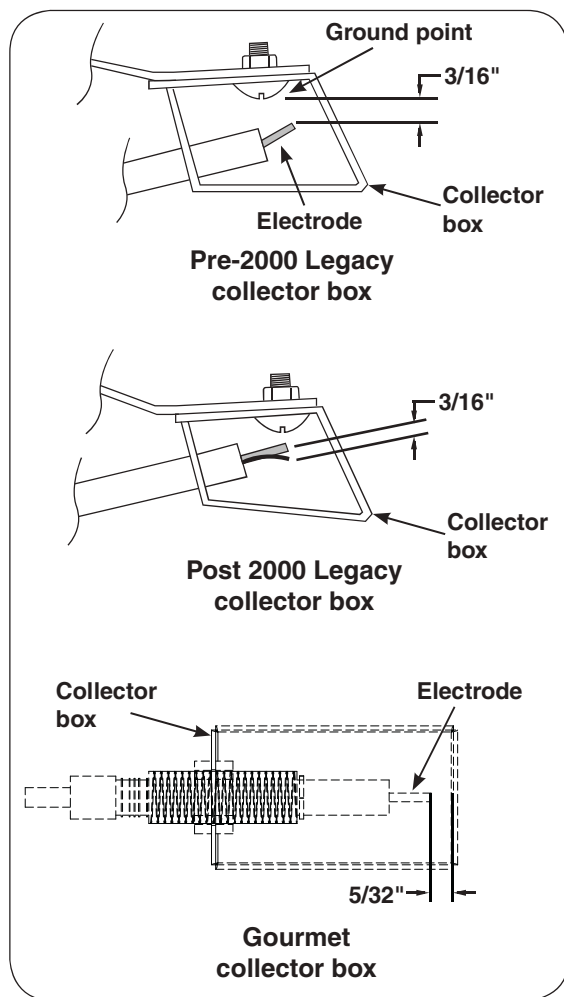

Fig. 2-1 Collector box
- Check the spark gap on the electrode. It should be $3/16$ " between the tip of the electrode wire and the sparking (ground) point (see Fig. 2-1). Make sure the electrode is secure in the collector box, and the collector box is secure to the frame.